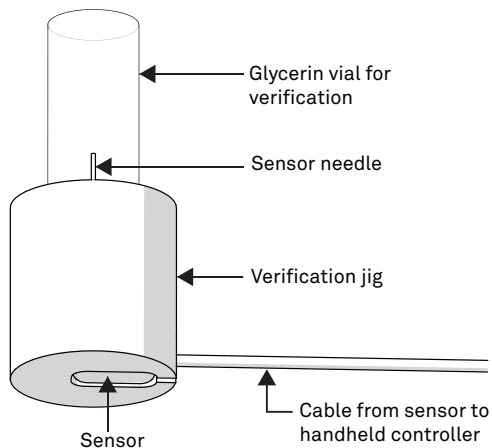

Figure 28 Verification holder for single-needle sensors
1. Using the white Delrin verification jig (Figure 28), insert the glycerin vial through the opening in the bottom.